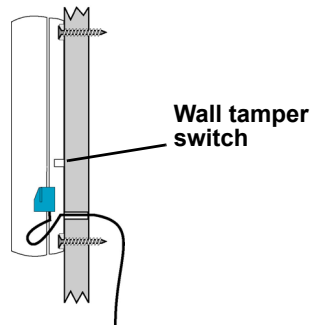

Figure 2 Mount the Transmitter to the Wall
11. Route the external wiring through the wall, as shown in Figure 2.